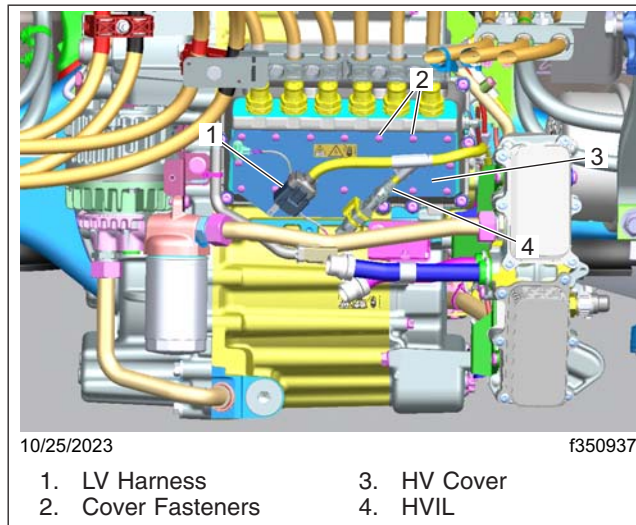

Fig. 13, Location of the HVIL
10. Remove the fasteners from the high voltage (HV) cable clamps that are connected just above the e-Axle gland nuts.
11. Disconnect the high voltage interlock (HVIL) and the LV harness from the HV cover. See Fig. 13.
12. Remove the HV cover fasteners and remove the HV cover. See Fig. 13.
56. Install the HV cover and fasteners to the HV interface on the e-Axle. See **Fig. 13**.